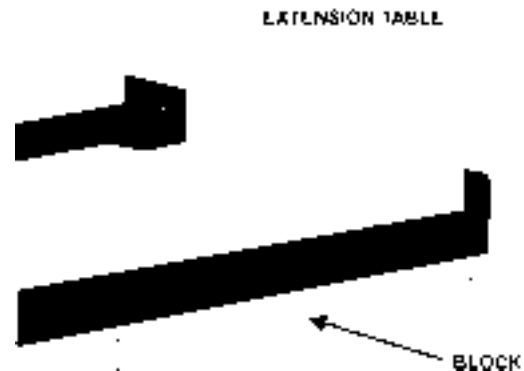

FIGURE 7
1. Lay the extension table on the floor, on the edge where the legs will be attached. Put the leg brackets inside the top's bracing. Block up legs so they will lay in the bracing and be parallel to the floor, Figure 7.